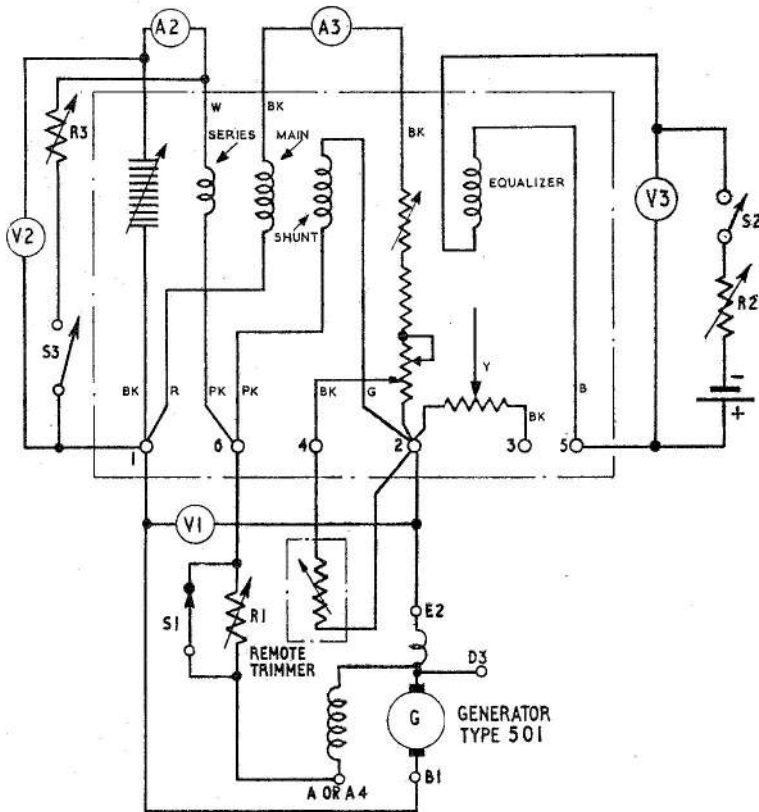

Fig. 1. Test circuit diagram
3. The regulator Type 126 and test equipment should be connected as shown in the circuit diagram fig. 1; this diagram shows a regulator connected to a generator Type 501, Rotax Type B2104, but if this generator is not available any generator which is used with this regulator may be substituted. Switch S1 should be closed for all tests except as described in the stability test.